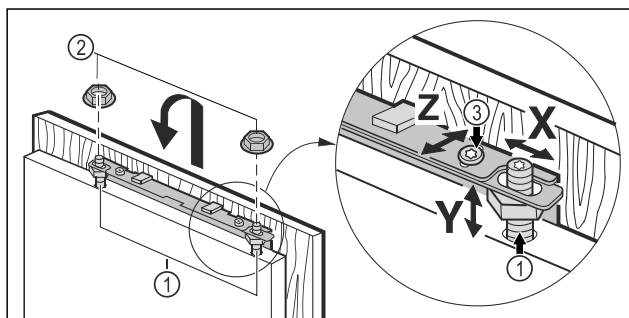

Fig. 20
- Hang the unit door on the adjustment bolts Fig. 20 (1) and screw the lock nuts Fig. 20 (2) loosely onto the adjustment bolts.
- Align the height Y and lateral inclination of the unit door: Set the adjustment bolts Fig. 20 (1) with a screwdriver.
- Tighten the lock nuts Fig. 20 (3).